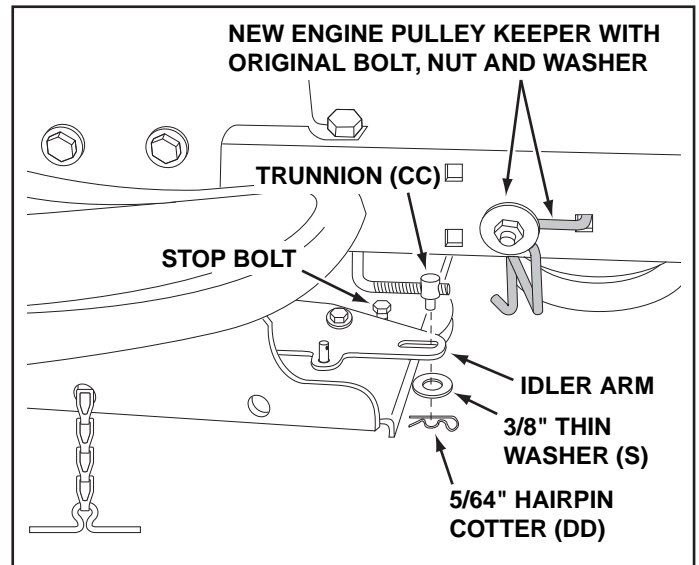

FIGURE 33 **RIGHT SIDE VIEW**
STEP 33: (SEE FIGURE 33)
- Pivot the upper idler arm so that it rests against the stop bolt and is pointing toward the front as shown. Screw the trunnion (CC) along the threads of the engagement rod until it is aligned at the front end of the idler arm slot. Attach the trunnion (CC) to the slot using the 3/8" thin washer (S) and a 5/64" hairpin cotter (DD).